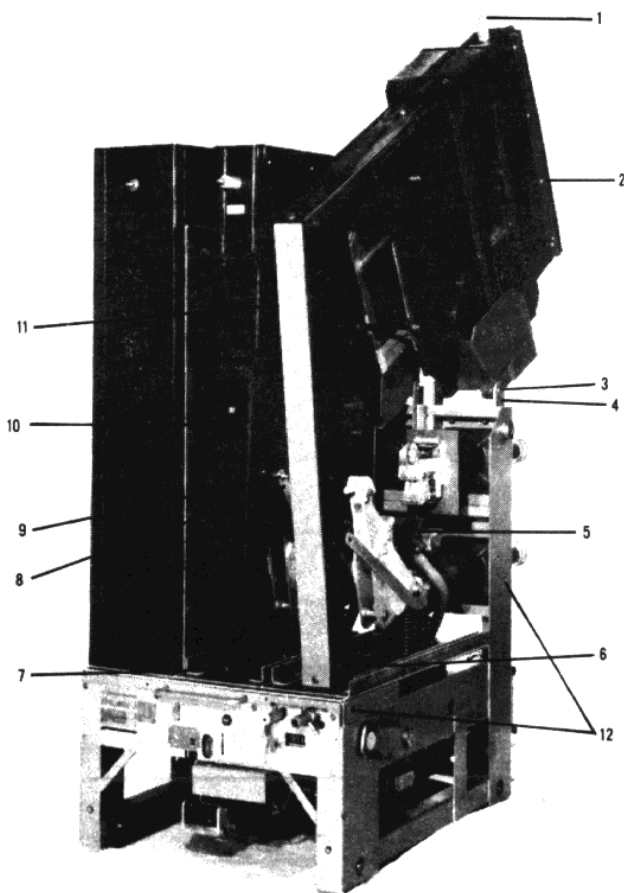
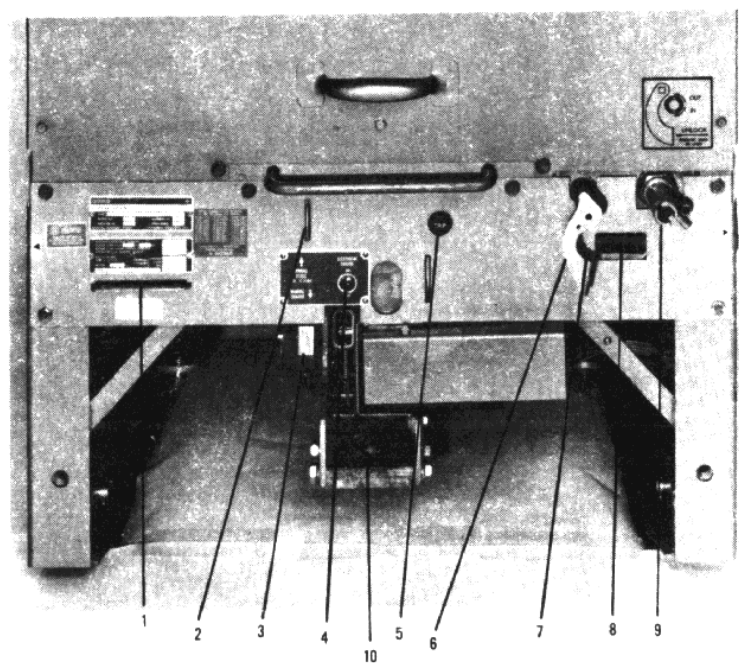
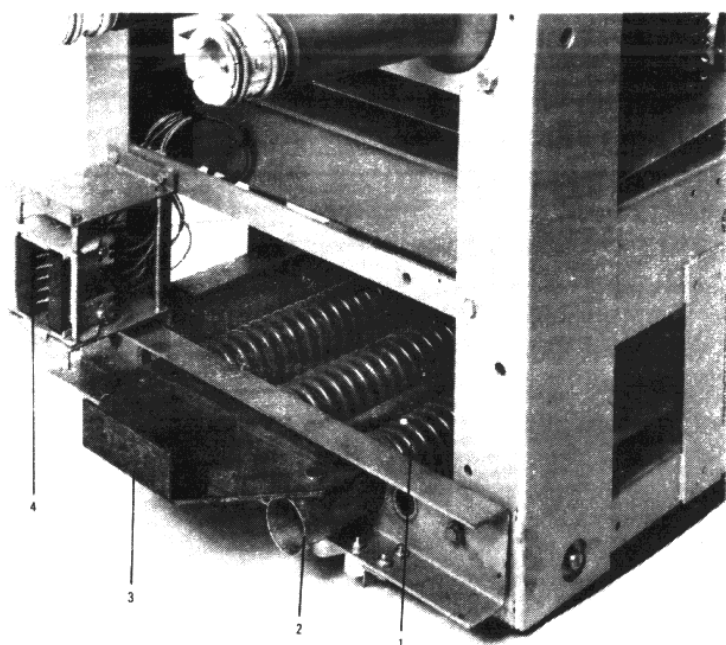

Fig. 1 — View Showing Arc Chute and Contact Structure
Fig. 2 — Front Plate Assembly
Fig. 3 — Rear View of Circuit Breaker Showing Application of Spring Retainer Bracket
IF IT IS NECESSARY TO RAISE OR MOVE THE BREAKER, ATTACH THE LIFTING YOKE AT POINTS 12 (FIGURE 1), OR A FIFTH WHEEL AT POINT 10 (FIGURE 2) TO TRANSPORT THE BREAKER AS REQUIRED.
3.4 REMOVING ARC CHUTES (See Figure 1)
3.7 MANUAL SLOW-CLOSE TO CHECK CONTACT PRESSURE (See Figures 2 and 3)
2. Engage manual charge handle with charging lever (3, Figure 2). Pump charging lever until breaker closing springs snap into charge position, then remove handle.
3. Insert BOTH tangs of spring retainer bracket (3, Figure 3) into holes of closing spring guides (2, Figure 3).
4. Pull manual close lever (2, Figure 2) to discharge closing springs onto tangs of spring retainer bracket (3, Figure 3). At this time the contacts will partially close.
5. Re-engage manual charge handle with charging lever (3, Figure 2), then slowly pump to slow-close breaker contacts. Check contact pressure as listed in Paragraph 5.4. Use the manual trip button (5, Figure 2) to open the breaker.
6. To remove spring retainer bracket (3, Figure 3) from circuit breaker, continue pumping until closing springs are again heard to snap into fully charged position. Spring retainer bracket can now be removed.
7. Discharge closing springs by pulling manual close lever (2, Figure 2) and pushing manual trip button (5, Figure 2) at the same time to effect trip-free operation. (The breaker can be closed first and then tripped.)
3.8 INSTALLING ARC CHUTES (See Figure 1)
3.10 INSTALLING CIRCUIT BREAKER INTO COMPARTMENT (See Figures 2 and 5)
1. Turn motor disconnect switch (if supplied) (4, Figure 2) to "OFF" position.
3. Engage fifth wheel with hole guide (10, Figure 2) and push circuit breaker into compartment until stopped.
6. With the circuit breaker racked to "TEST" position, check for proper operation by operating all possible means of opening and closing. This includes control switches, relays, etc. Turn motor disconnect switch (4, Figure 2) to "ON" position to charge the closing springs, and operate the breaker as required. If motor disconnect switch (4, Figure 2) is not provided, springs will automatically charge when approaching "TEST" position.